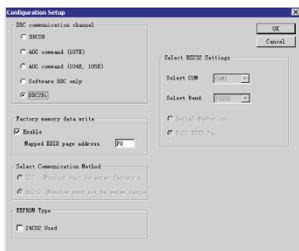

Fig. 19
- Click icon as shown in Fig. 18 from the tool bar to bring up the Channels "Configuration Setup" windows as shown in Fig. 19.
- Select the DDC2Bi as the communication channel. As shown in Fig. 19.